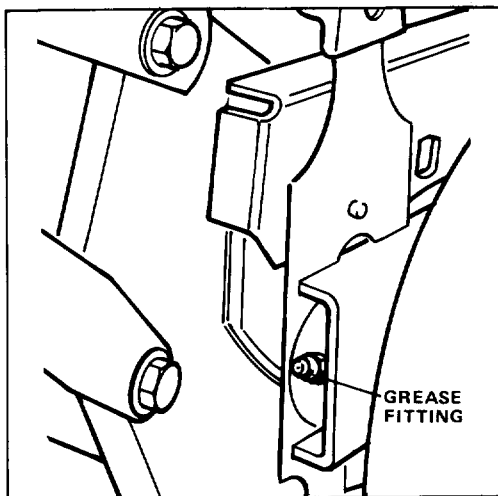

Figure 23
1. Move rear wheel height-of-cut levers to center setting. Wipe grease fittings with clean rag (Fig. 23). Install grease gun onto fitting and gently apply 2 to 3 pumps of #2 Multipurpose Lithium Base Grease. Excess pressure may damage seals.